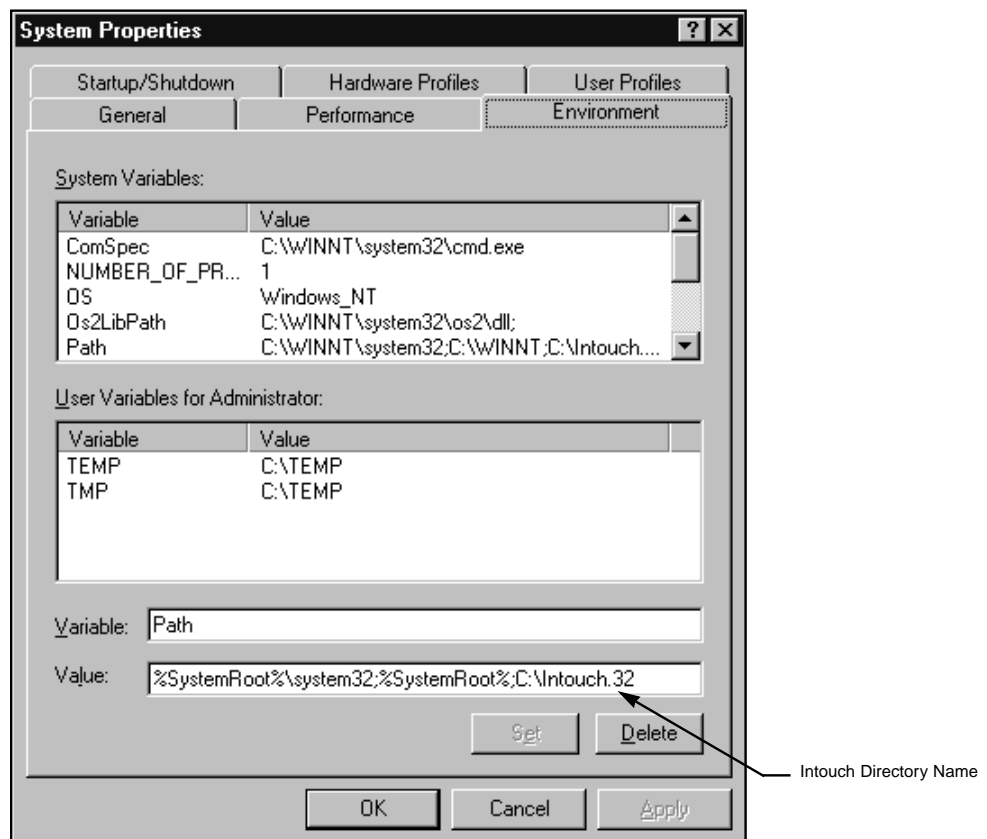

FIGURE II-1
4. Select the "Environment" tab. See Figure II-1.